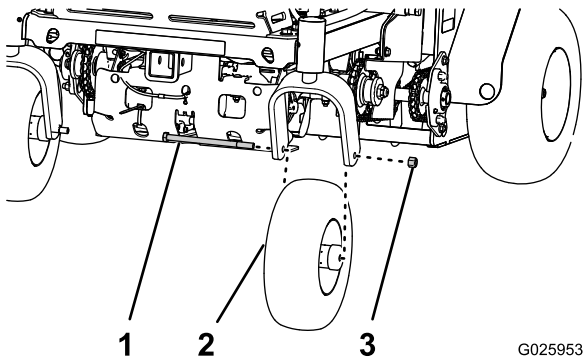

Figure 32
3. Remove the wheel nut and bolt, and remove the caster-wheel assembly from the fork (Figure 32).
1. Align the hole in the axle of the caster-wheel assembly between the holes in the fork of the caster (Figure 32).
2. Secure the to the fork with the wheel nut and bolt (Figure 32) that you removed in step 3 of Removing the Caster-Wheel Assembly (page 29).